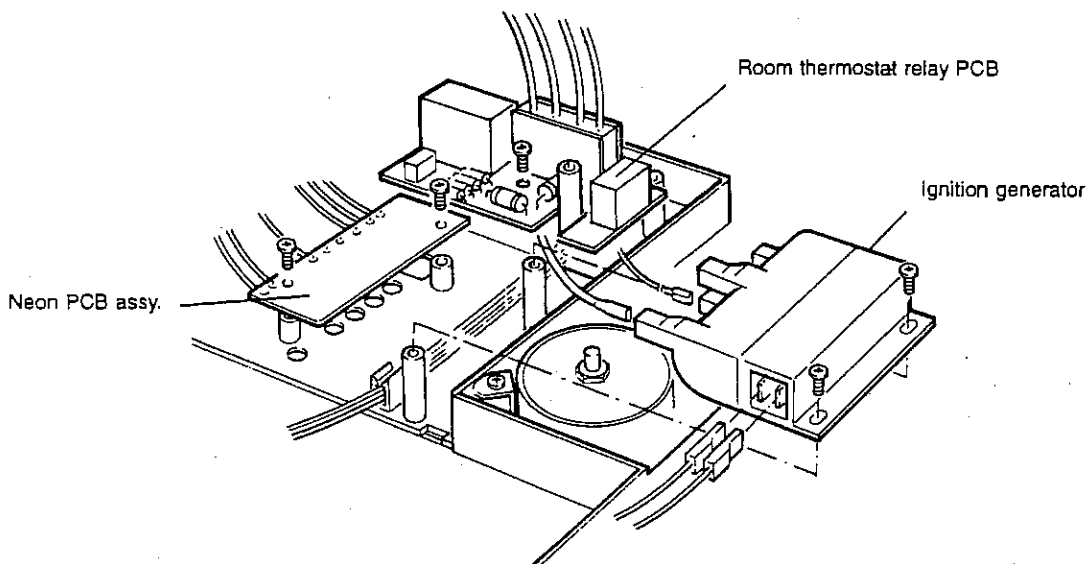

Fig. 25
8.4 IGNITION LEAD - Refer to Fig. 25
8.15 IGNITION GENERATOR - Refer to Fig. 25
3. Refer to Fig. 25, connect the wiring to the new generator and re-assemble in reverse order.
8.16 NEON ASSEMBLY - Fig. 25
8.17 ROOM THERMOSTAT RELAY PCB - Fig. 25